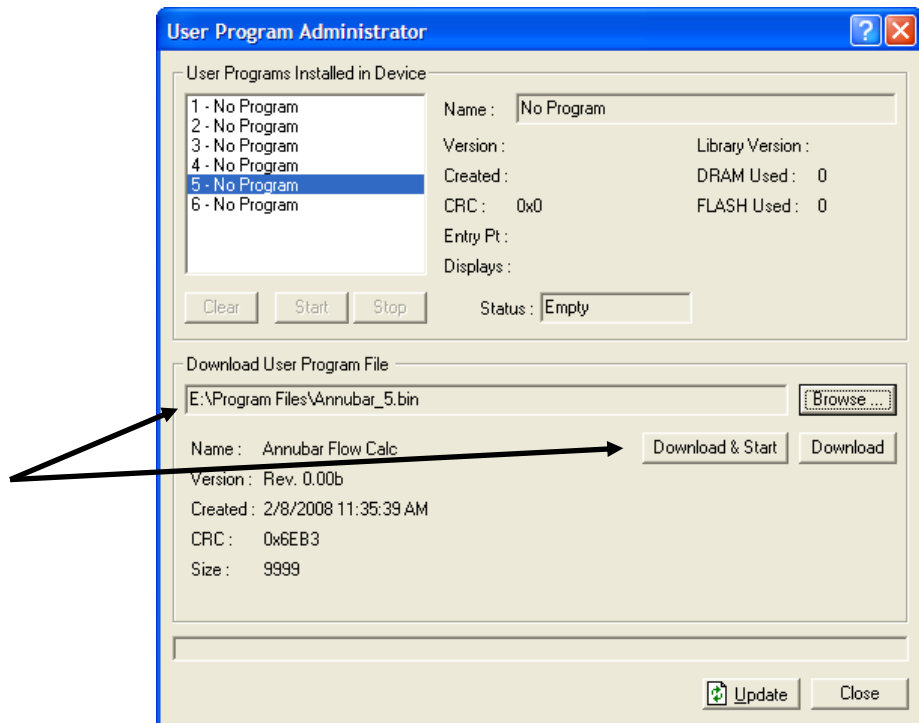

Figure 5. User Program Administrator
6. Click **Open** to select the program file. The User Program Administrator screen displays. As shown in Figure 5, note that the Download User Program File frame identifies the selected program and that the **Download & Start** button is active: